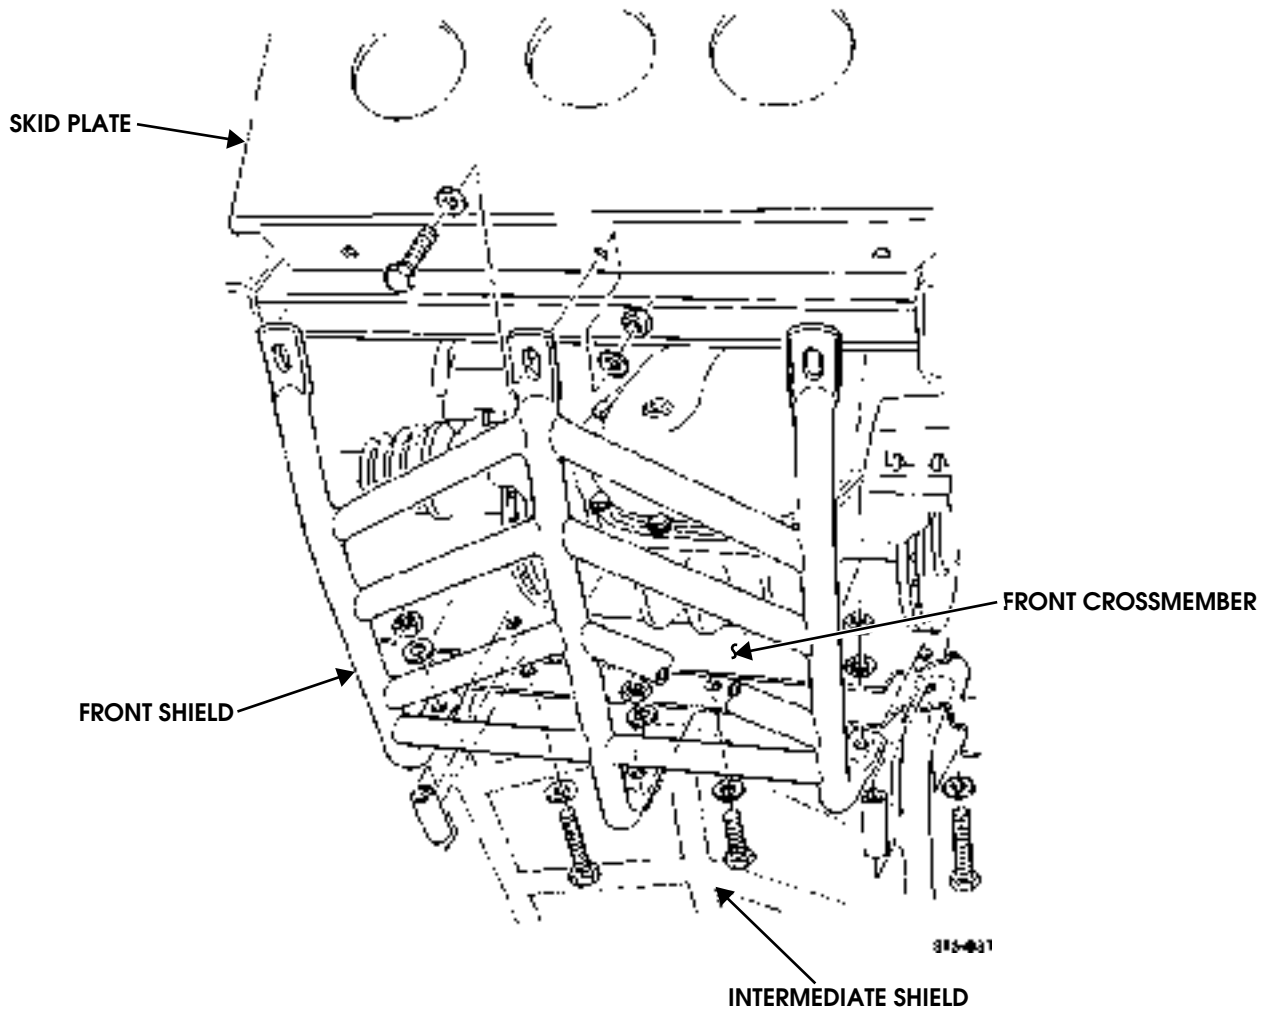

Figure 13-33: Front Shield Mounting
1. Remove locknuts, washers, bolts, and spacers securing front shield to front crossmember and intermediate shield (Figure 13-33).
1. Install front shield on skid plate with bolts, washers, and locknuts. Do not tighten locknuts (Figure 13-33).